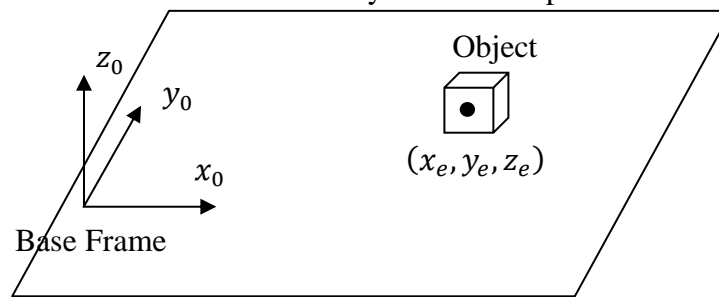

Figure 1: Setup of the QArm workspace.
- Given the location of an object (x_e, y_e, z_e) in millimeter with respect to the robot's base frame as shown in Figure 1, find the expressions of the corresponding joint angles in radians to reach this position. The fourth joint angle should always set to be zero.